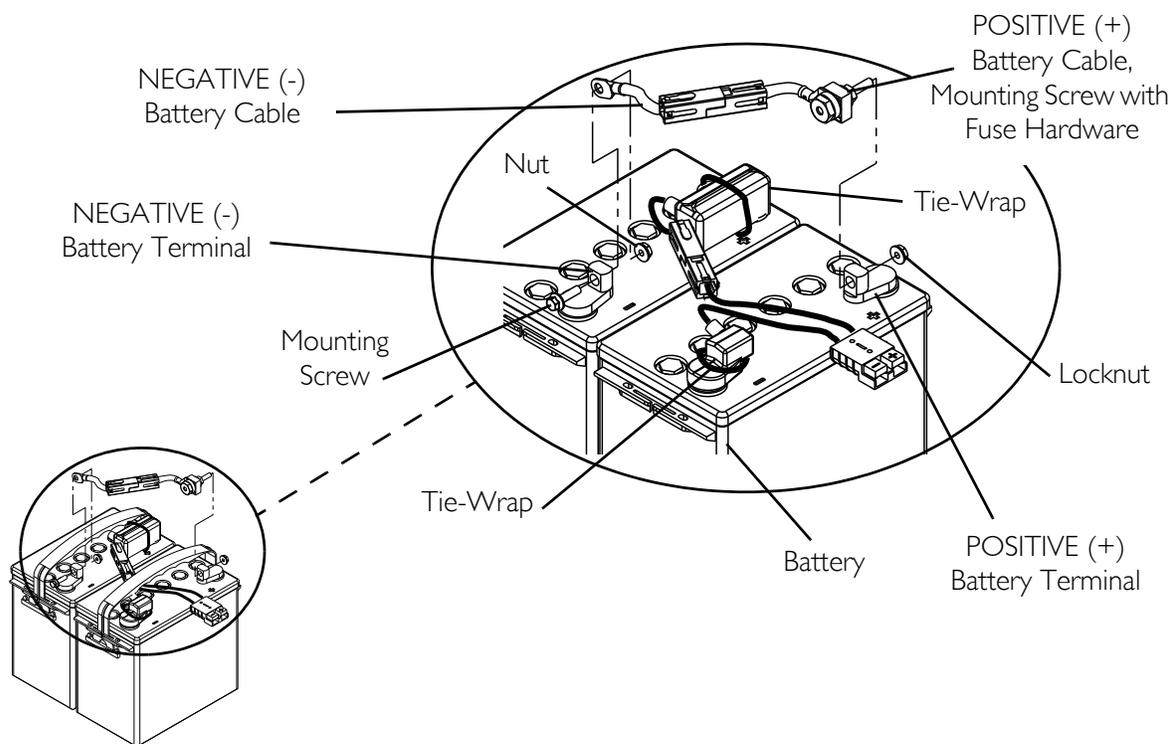

FIGURE 12.3 Connecting/Disconnecting the Battery Wiring Harness
When connecting the battery cables to the battery(ies), the battery cable(s) **MUST be connected to the battery terminal(s)/post(s) as shown in **FIGURE 12.3** otherwise damage to the battery may result.**
NOTE: For this procedure, refer to FIGURE 12.3 on page 80.
2. Using the mounting screws and nuts, secure the battery cables to the battery terminals as shown in FIGURE 12.3 in the following order:
6. Using new tie-wraps, secure the terminal covers to the battery terminals as shown in FIGURE 12.3.
3. Remove the mounting screws and nuts that secure the battery cables to the battery terminals as shown in FIGURE 12.3 in the following order: